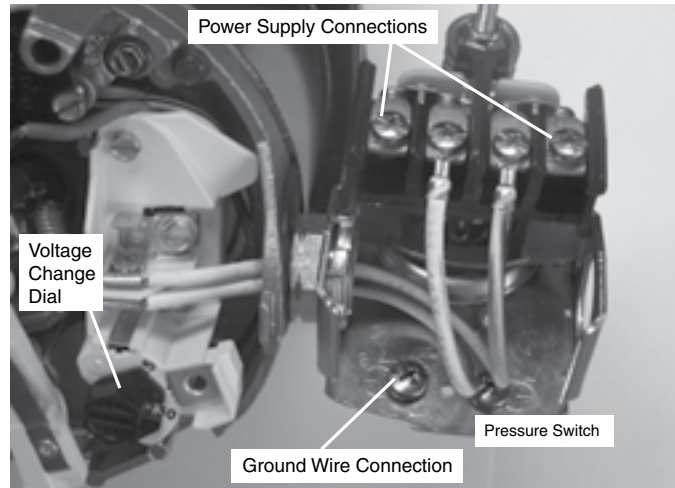

Figure 10: Voltage set to 230 V, Dial Type
3. Attach the incoming power leads to the two outer screws on the pressure switch as shown in Figure 10.
4. Attach the ground wire to the grounding connections as shown in Figure 10.